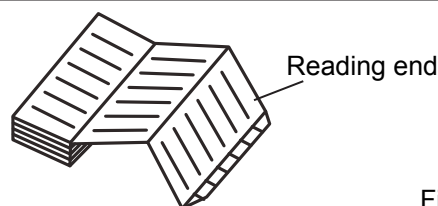

Fig. 3
3. Put the recording paper into the cartridge with the printed surface out, from the leading end as shown in Fig. 3
Turn the power switch ON. The ink pen will move inward on the recording paper and stop temporarily at the 0% position (equivalent to the 40°C line). Then the ink pen will move to the position which indicates the measured temperature. (Fig. 3)